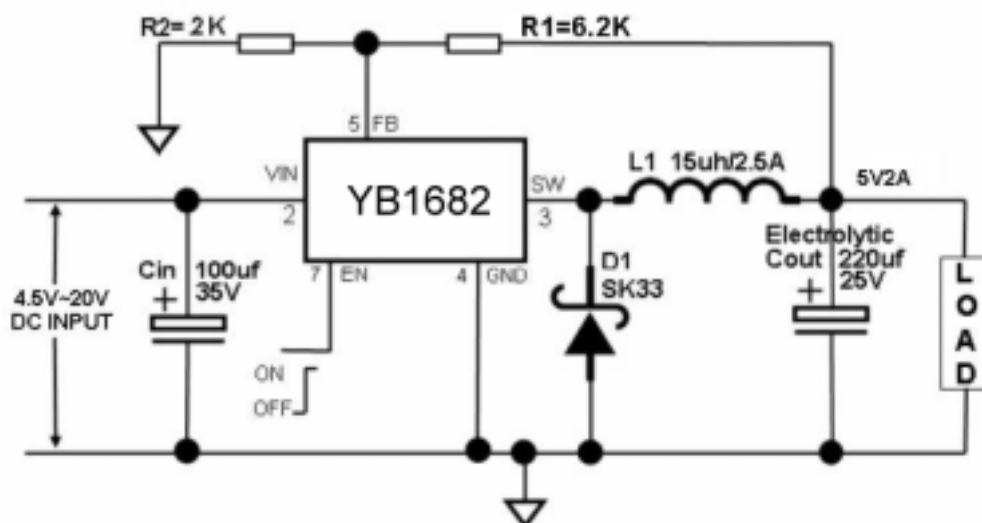

Figure 1: Typical Application Circuit
**Table 2** ( $V_{IN} = V_{RUN} = 3.6V$ ,  $T_A = 25^\circ C$ , Test Circuit Figure 1, unless otherwise noted.)